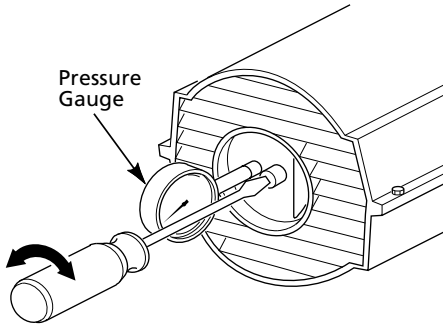

Figure 13 - Adjusting Pump Pressure
2. Install accessory pressure gauge (Part Number HA1180) (See Figure 13).